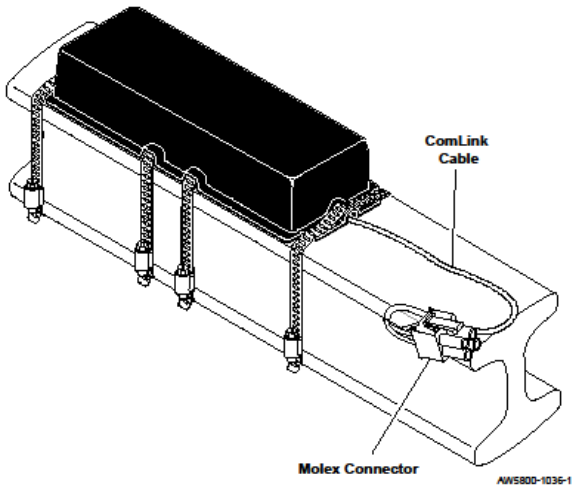

Figure 17. Cover with Sensor Cable
4. Installation of the Steer Deflection Sensor is complete. Figure 17 shows covered sensor with sensor cable extending towards the ComLink module.